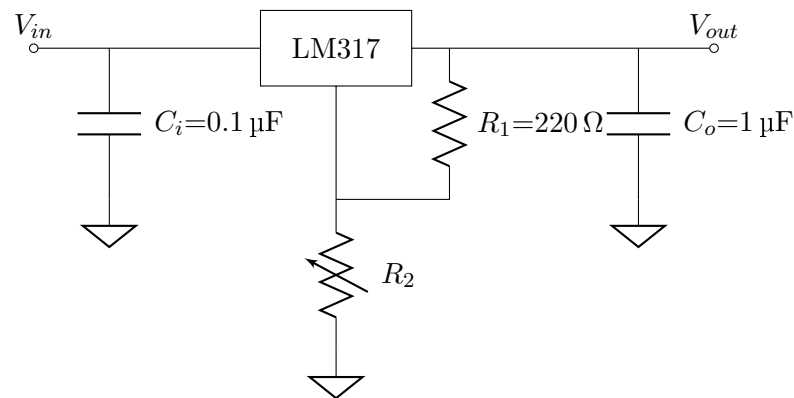

Figure 3: Schematic of the connection between Arduino UNO and the MCP4921.
1. Using Fig. 3 as a reference, connect the UNO to the MCP4921 DAC. Connect VDD to 5V and both AVSS and LDAC to ground. A $0.1\mu\text{F}$ and $1\mu\text{F}$ capacitors could be used at VREF to minimize noise at the reference. Connect the UNO with the computer using the USB cable, which is used both to program the UNO and power it up. It is very important to keep your circuit (ICs, resistors, capacitors, wires, etc) organized. Use as short of a wire as possible between two connection points. Refer to Fig. 4 for an example layout.